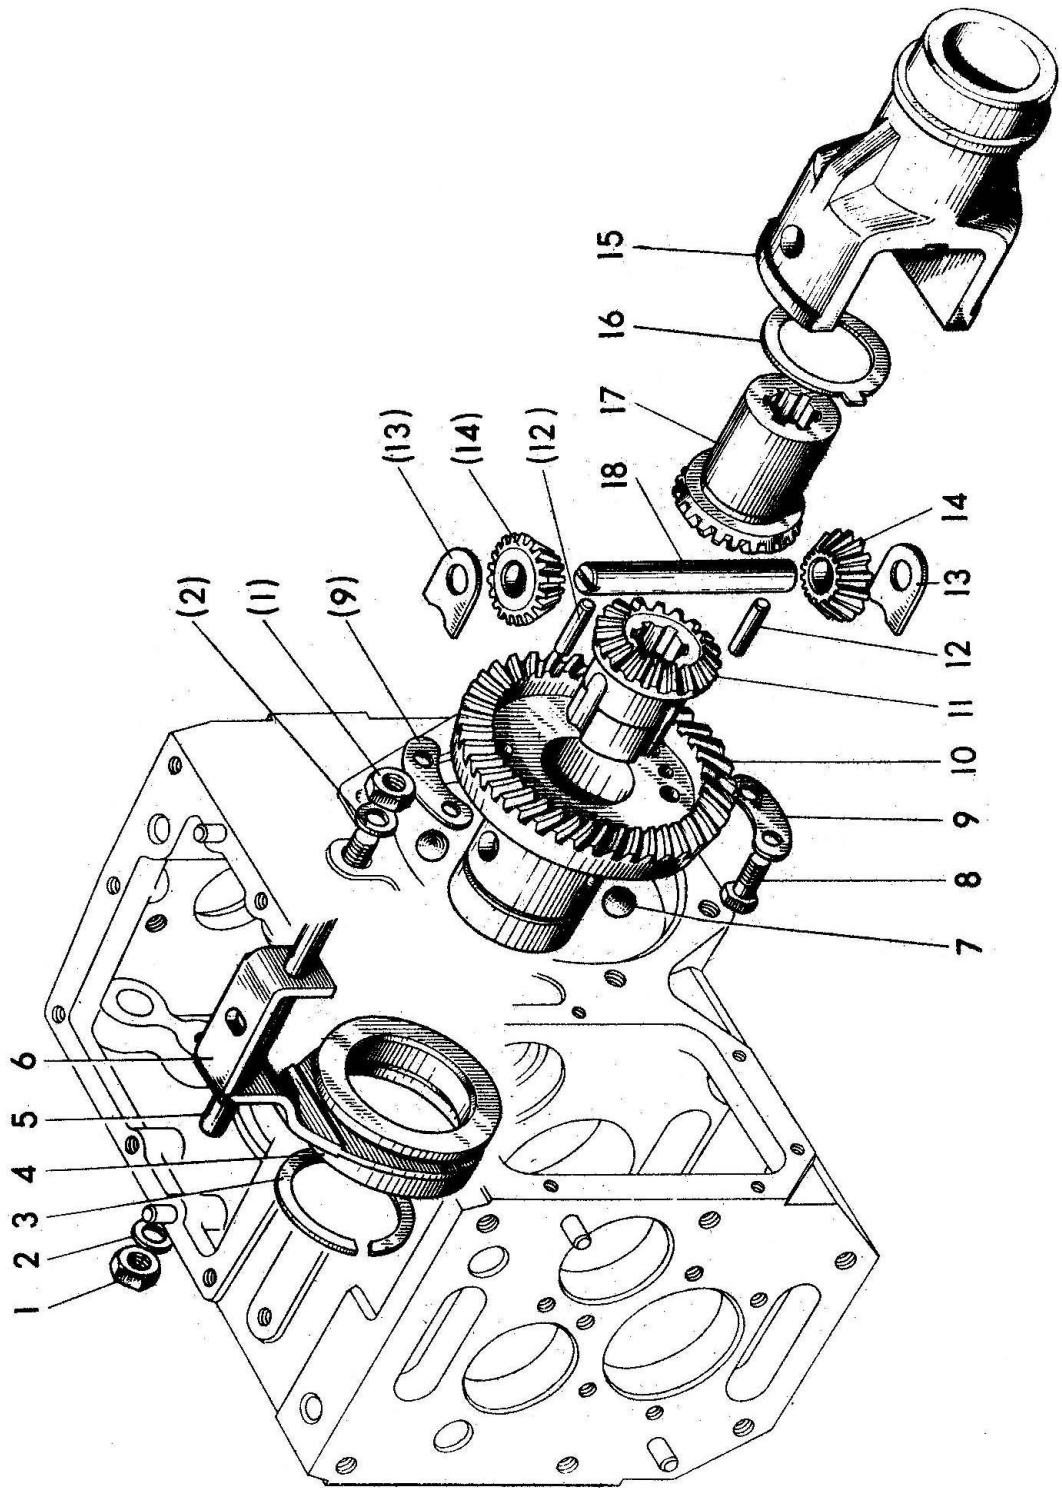

Figure 6 – Differential
**05-2403. Differential (figure 6)**